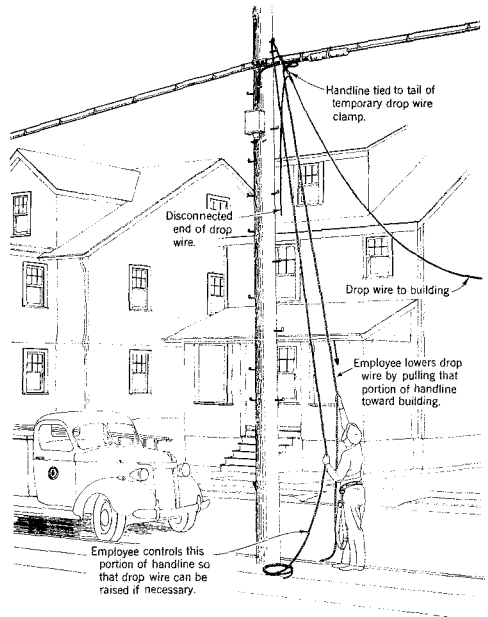

Fig. 1 – Lowering Drop Wire
- (3) Disconnect the drop wire from the terminal and remove the free end from the wiring rings on the pole.
- (4) Place a temporary drop wire clamp on the wire to be lowered, about one foot out in the span. Seat the clamp firmly on the wire.
- (5) Tie a loop of the handline to the tail of the temporary drop wire clamp so that the lashed end of the handline is sufficiently taut to remove tension from the original drop wire clamp.
- (6) Remove the original drop wire clamp from the wire span, thus leaving the wire supported by the temporary drop wire clamp and the lashed handline.
(7) Return to the ground. Untie the handline from the base of the pole and, when no vehicles or pedestrians are approaching, lower the drop wire to the ground by pulling that portion of the handline toward the building. The portion of the handline on the opposite side of the strand should pass through the employee's hand as shown in Fig. 1 in order that he may be able to pull the handline in either direction to work the drop wire among the branches of a tree or to raise the wire quickly if necessary.
(8) After the wire has been lowered to the street or highway, remove the temporary drop wire clamp from the wire, tie the handline to the base of the pole, and remove the wire from the street or highway.